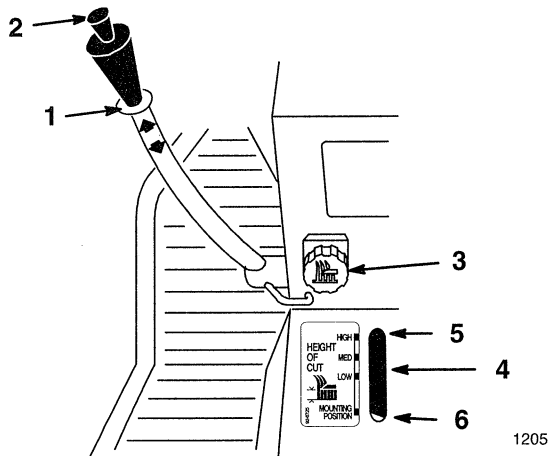

Figure 24
The attachment lift lever (Fig. 24) is used to raise and lower various attachments.
The Dial-A-Height control (Fig. 24) is used to limit the downward travel of the attachment. The Dial-A-Height knob is rotated to change the location of this stop, up or down.
1. Raise the attachment lift lever: Refer to Raising Attachments. In the raised position the Dial-A-Height knob (Fig. 24) can be rotated to change the stop location. Turn clockwise to raise and counterclockwise to lower the height of the attachment.
2. The Dial-A-Height indicator (Fig. 24) will show the change, high to low, in attachment lift height as adjustment is made.